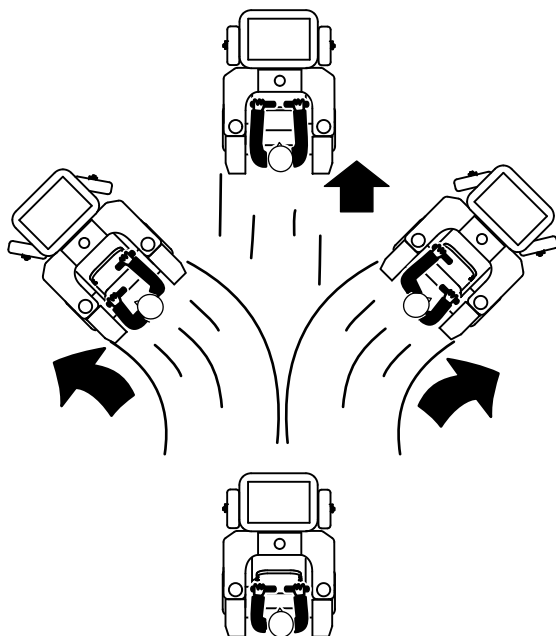

Figure 16
2. Slowly push the motion-control levers forward (Figure 16).